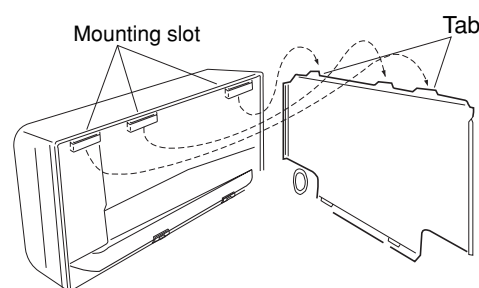

Fig. 3-31
- (a) Hang the 3 mounting slots of the unit on the upper tabs of the rear panel. (Fig. 3-31)